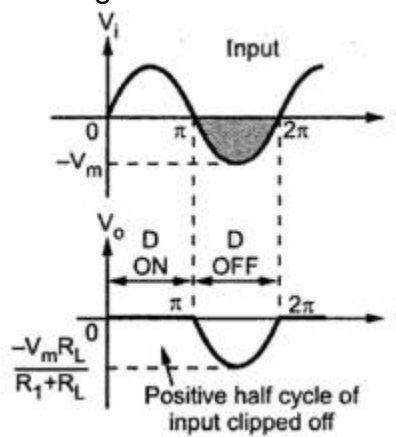

Fig. 1.61 Waveforms for parallel clipper
- The waveforms are shown in the Fig. 1.61.